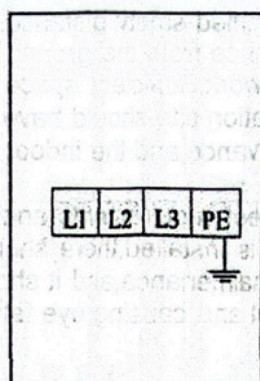

图 1
- Power cable connection: Connect the 380V 3ph four-wire power cable (3×2.5mm²+1×1.5 mm² cable) to the console L1,L2,L3 and the PE ground wire on the incoming terminal to the ground, on the marking bolts, and then connect to the grounding marking bolts at the bottom of the two platforms (Figure 1)